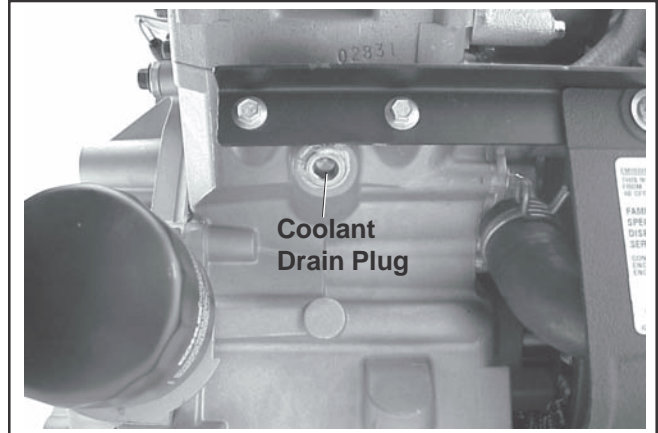

Figure 12. Coolant Drain Plug (Some Models).
3. If equipped, remove the coolant drain plugs located on each side of the engine block. See Figure 12. Drain the coolant into a suitable container. After the coolant has drained completely, apply pipe sealant with Teflon® (Loctite® No. 592 or equivalent), to the threads and reinstall the plugs. Torque the two plugs to 36.7 N·m (325 in. lb.).